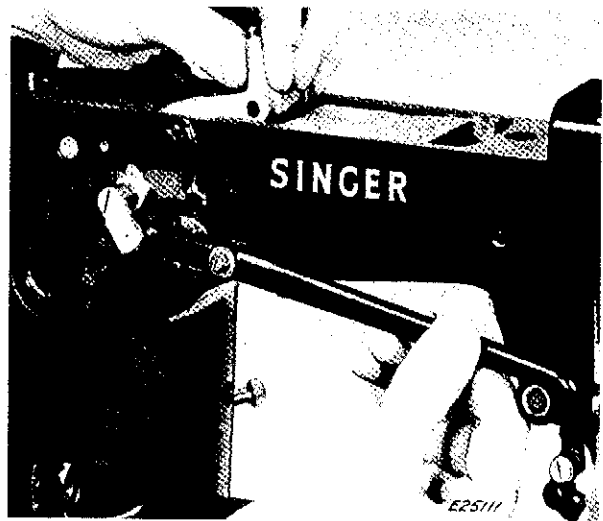

Fig. 75. Step 1
5. Lift frame slightly upward with left hand and push pitman toward presser bar lifter as shown in **Fig. 75** and turn slightly to ease slide block free from bight control.
3. Continue to lower assembly until pitman again can be pivoted counter-clockwise (90 degrees) with right hand while simultaneously guiding frame into top of arm with left hand until crank end of pitman is near presser bar lifter, as shown in **Fig. 75**.